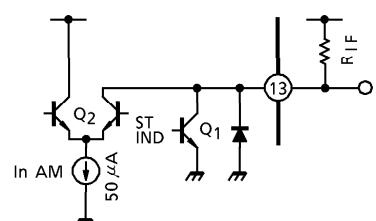

Fig.5 Internal circuit of pin⑬
- The terminal of pin⑬ is built in stereo indicator function and modulated AM IF signal output. In AM mode,  $R_{IF}$  (3k $\Omega$  or less) should be connected between  $V_{CC}$  and pin⑬, or pin⑬ should connected to  $V_{CC}$  directly. (Fig.5) In case that  $R_{IF}>3k\Omega$  or pin⑬ is opened, this IC doesn't operate normally in AM mode. Because transistor  $Q_2$  is saturated.